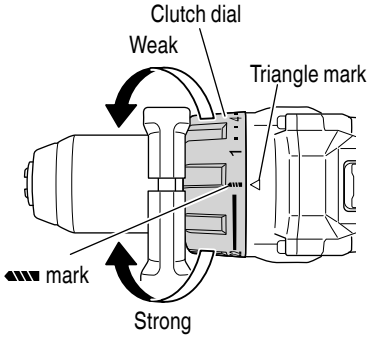

Fig. 15
<DS18DC> (Fig. 15)
- (2) Tightening torque indication (See Fig. 15, 17)
- (3) Adjusting the tightening torque (See Fig. 15, 17)